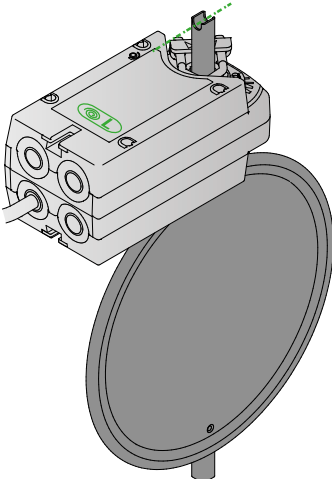

Figure 11. Damper open with jumper to the left (NO).
4. Refit spindle clamp and circlip. Then open the damper blade, see Figure 11.